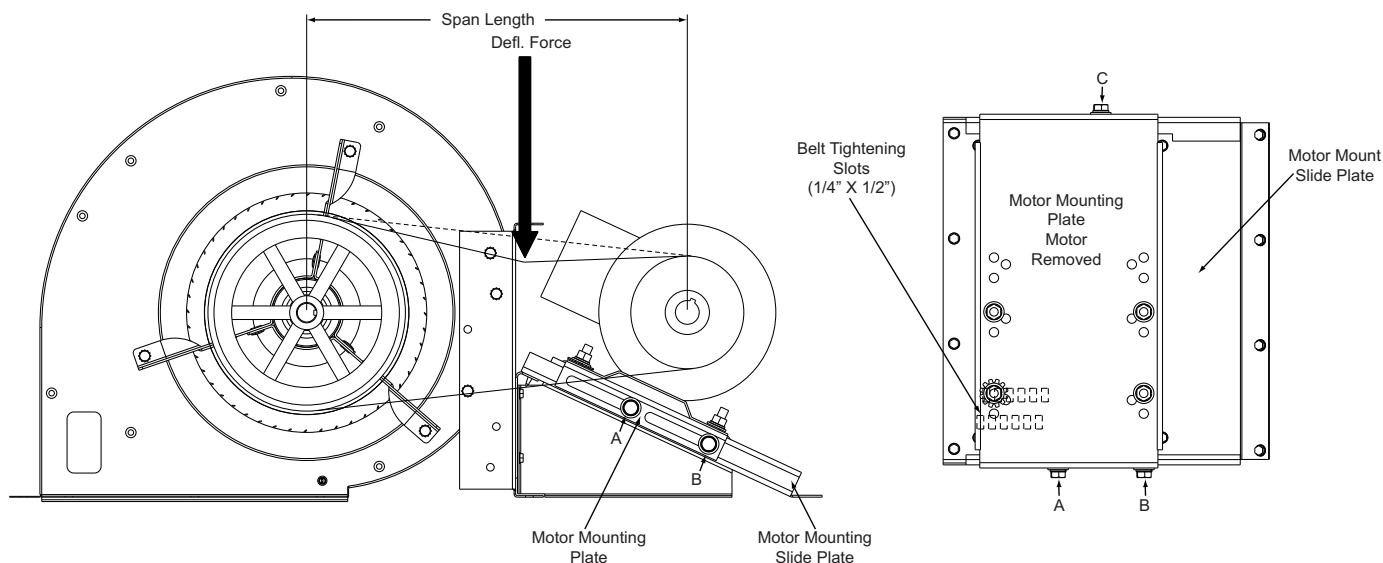

Figure 21: Belt Adjustment
2. Adjust tension by placing a flat heat screwdriver into the belt tightening slots (1/4" X 1/2") in the motor mount slide plate and applying pressure against the motor mounting plate. See Figure 21.